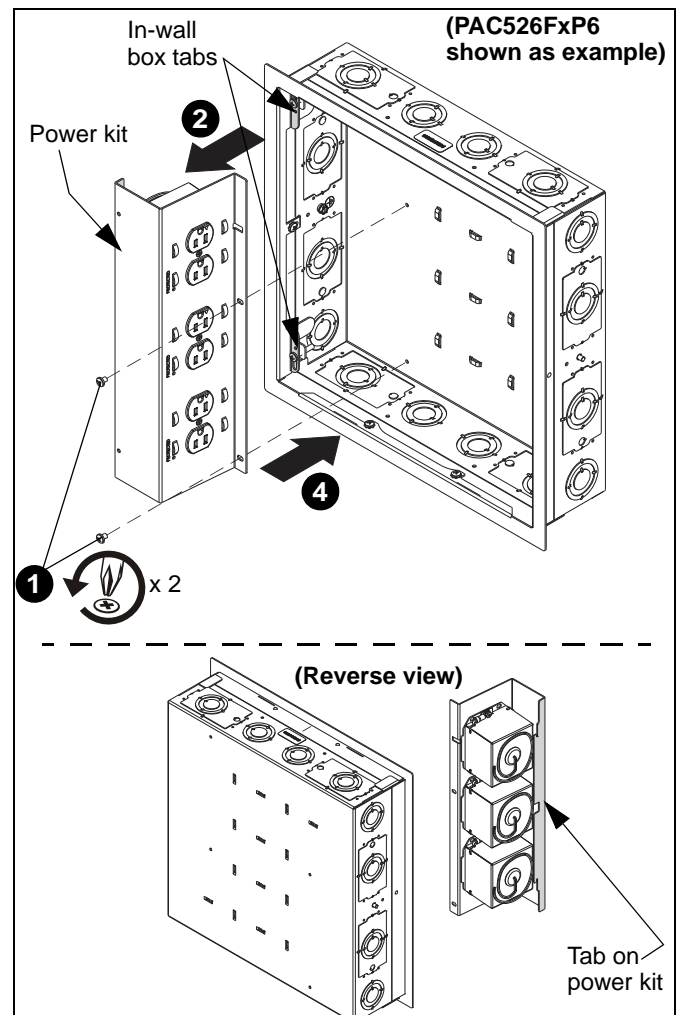
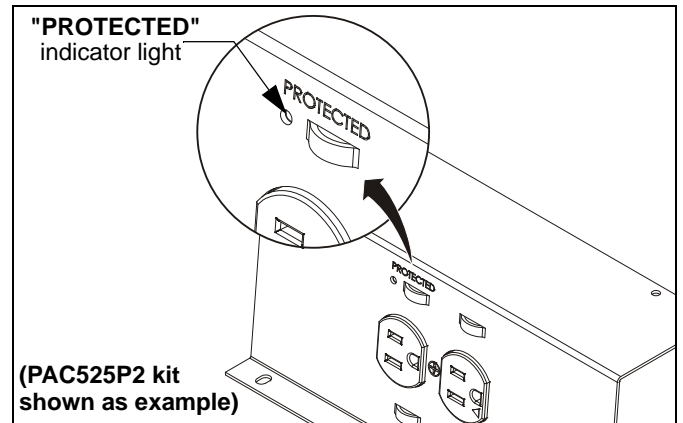

Figure 1
**Figure 2**
1. Remove and save two Phillips head screws holding power kit within box. (See Figure 1)
2. Remove the power kit from the in-wall box, detaching the tab on the power kit from the tabs in the in-wall box. (See Figure 1)
- Wire the outlet box(es) as required. Refer to Table 1 and Table 2 for input and output specifications. (See Figure 2)
- Replace the power kit into the in-wall box, joining the tab on the power kit with the tabs in the in-wall box. (See Figure 1) and (See Figure 2)
- Tighten two Phillips screws to secure power kit in the in-wall box. (See Figure 2)